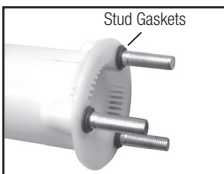

Figure 8
10) At this point the piston cylinder itself and/or piston cylinder stud gaskets can be replaced. The piston cylinder stud gaskets must be oriented correctly or leakage may result (Figure 8).